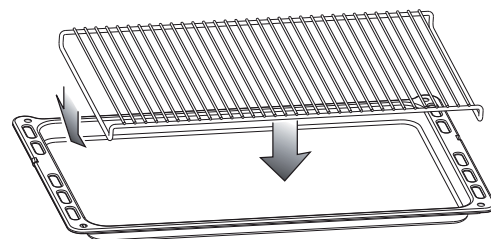

Fig. 4.4
- Introduce the broiling pan (fig. 4.4) in the oven. The broiling pan should be centered under the broil element (fig. 4.3).